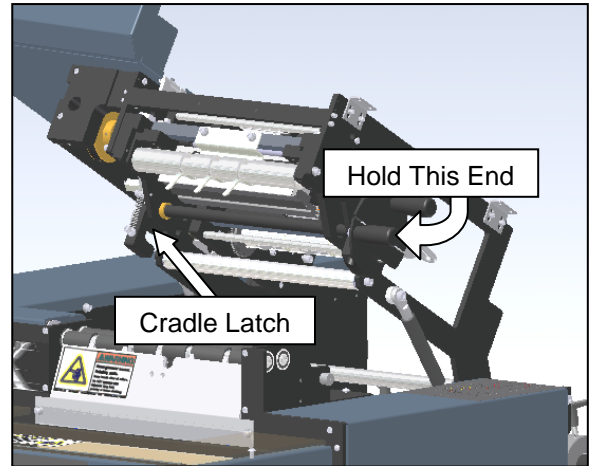

Figure 3-277. Reinstalling the Cradle Latch
- Install the new latch onto the machine. Be sure to hold the right side of the latch lever tight to the plate. Once in position, tighten the latch screws (Figure 3-277).